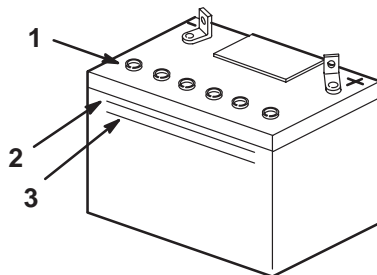

Figure 10
3. Remove the vent caps from the battery (Fig. 10).
4. Slowly pour electrolyte into each battery cell until the electrolyte level is up to the Upper line on the battery case (Fig. 10).
5. Wait 5 to 10 minutes after filling the battery cells, then add electrolyte, if necessary, until the electrolyte level is up to the upper line (Fig. 10) on the battery case.